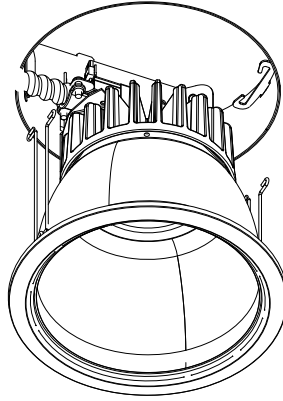

Figure 5
5. For trims with torsion springs, compress torsion spring and insert into receiver in plaster ring and push up to seat. See Figure 5.